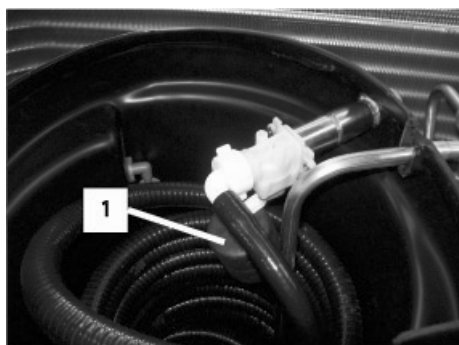

Fig. 30
3. The float valve (Fig. 30/1) is factory-set so that the water level on the level indicator is in the upper third between the maximum and minimum indication when the valve is closed.